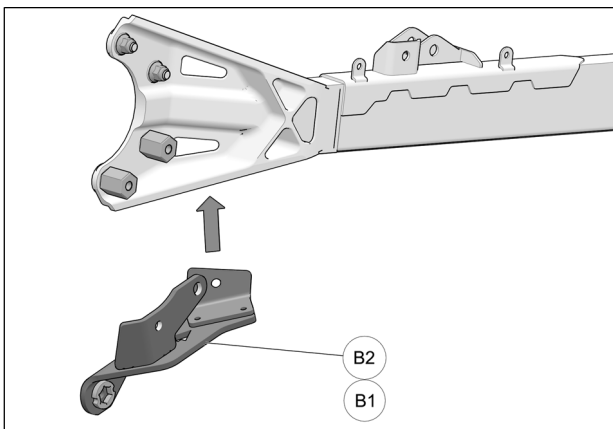

Fig. 7
7. Position anchor bracket (**B1-B2**) under rear suspension trailing arm and align anchor bracket bolt holes with hex spacers. See Fig. 7